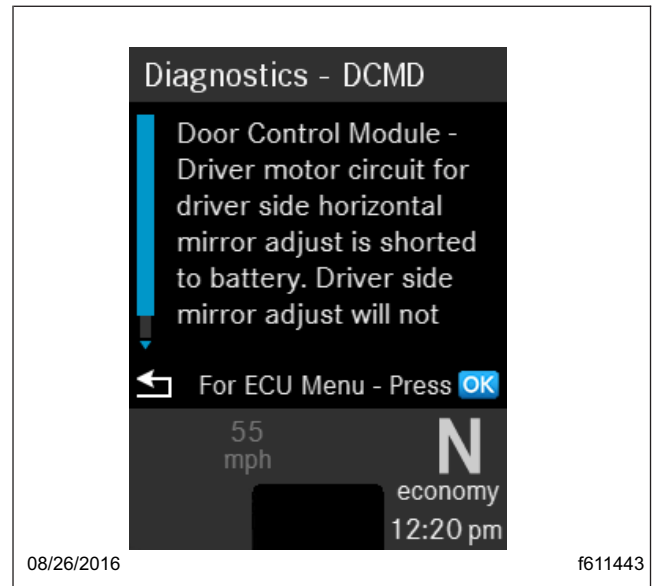

Fig. 9.4, Additional Information for the Fault
4. Press OK again to access additional information. See Fig. 9.4.